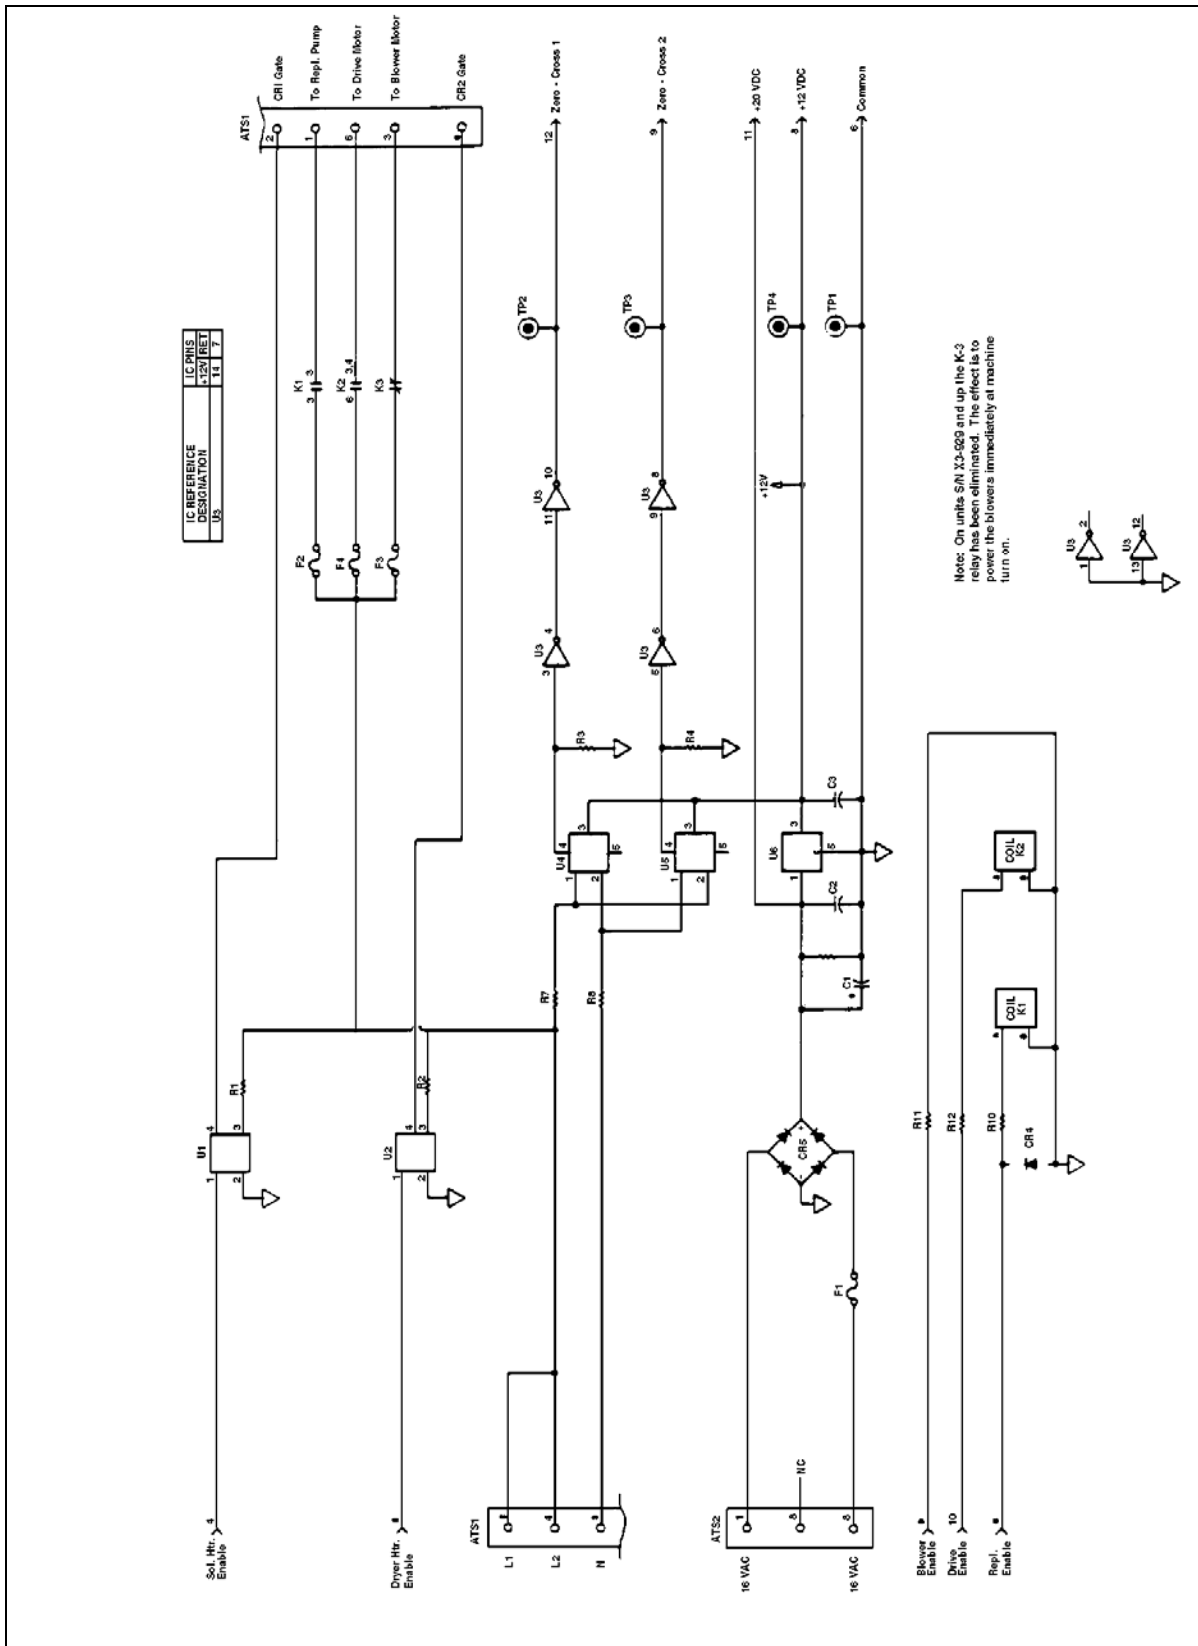

Figure 4-1. Power board.
a. **Power Board Function.** Refer to figure 4-1.
(1) The power board is a low voltage supply.
a. **Power Board.** Refer to figure 4-1.
(1) Power supply. A 16vac transformer T-1 supplies the low voltage (+20 and +12vdc) power.
(2) Zero crossing.